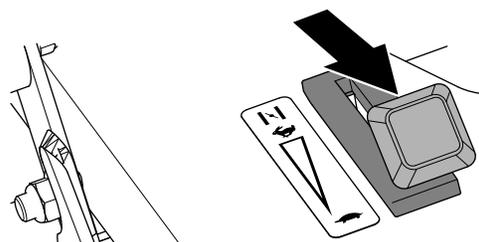

Figure 14
2. Move the throttle lever all the way rearward to SLOW position (Figure 14).